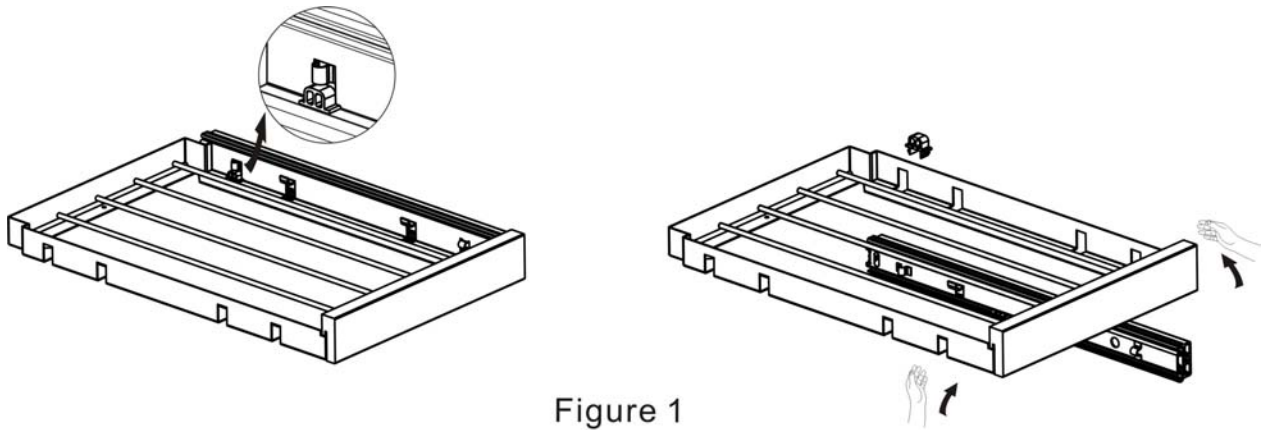

Figure 1
- Remove the stopper from each side of the rack, and gently pull up. You can then remove the rack. (Fig. 1)